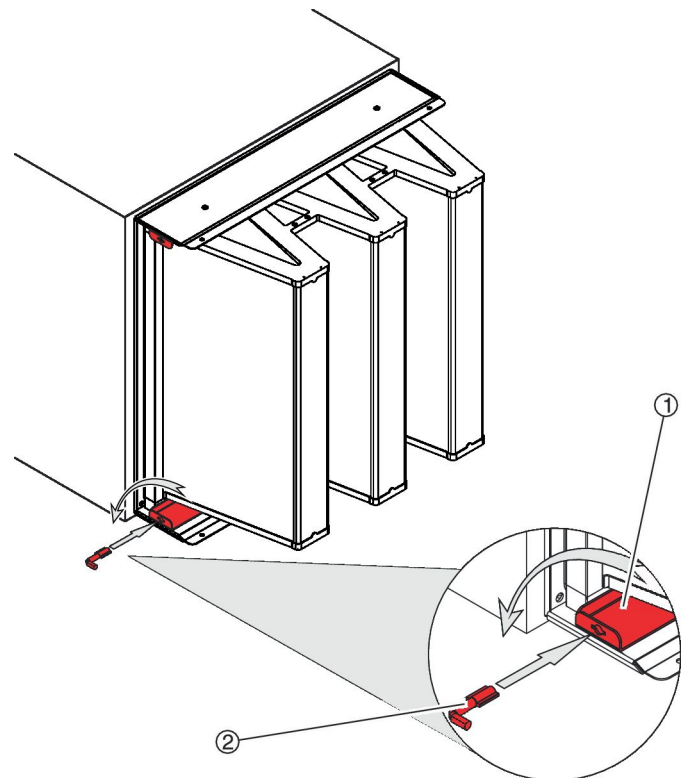

Fig. 24: Inserting the special key
3. ▶ Insert the special key (Fig. 24 /2) into the recess of each clamping rail (Fig. 24 /1) and turn it anti-clockwise by 90°.